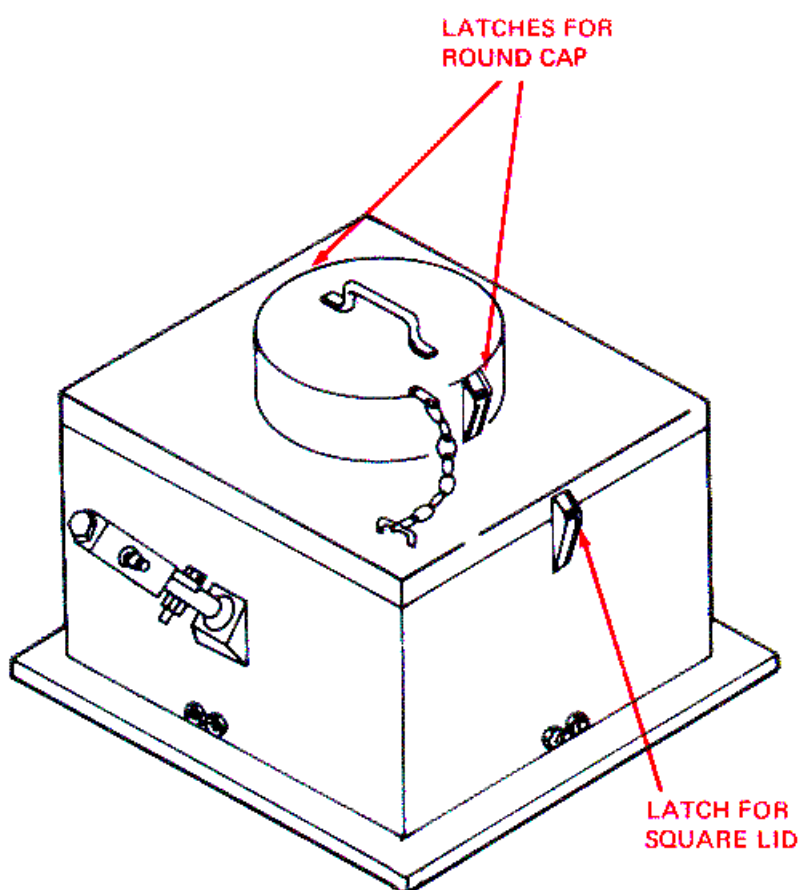

Figure 2-20. Quick-Loading Hopper.
- c. To load cement from an "elephant trunk" loader, remove the round cap and fit trunk into the opening (fig. 2-20). Fill the bin.
- d. To load cement from a chute or auxiliary bin; remove the square hopper lid (fig. 2-20). Fill the bin.
- f. Close hopper lid or put round cap back on. Close the latches. Check to be sure the covers fit securely (fig. 2-20).